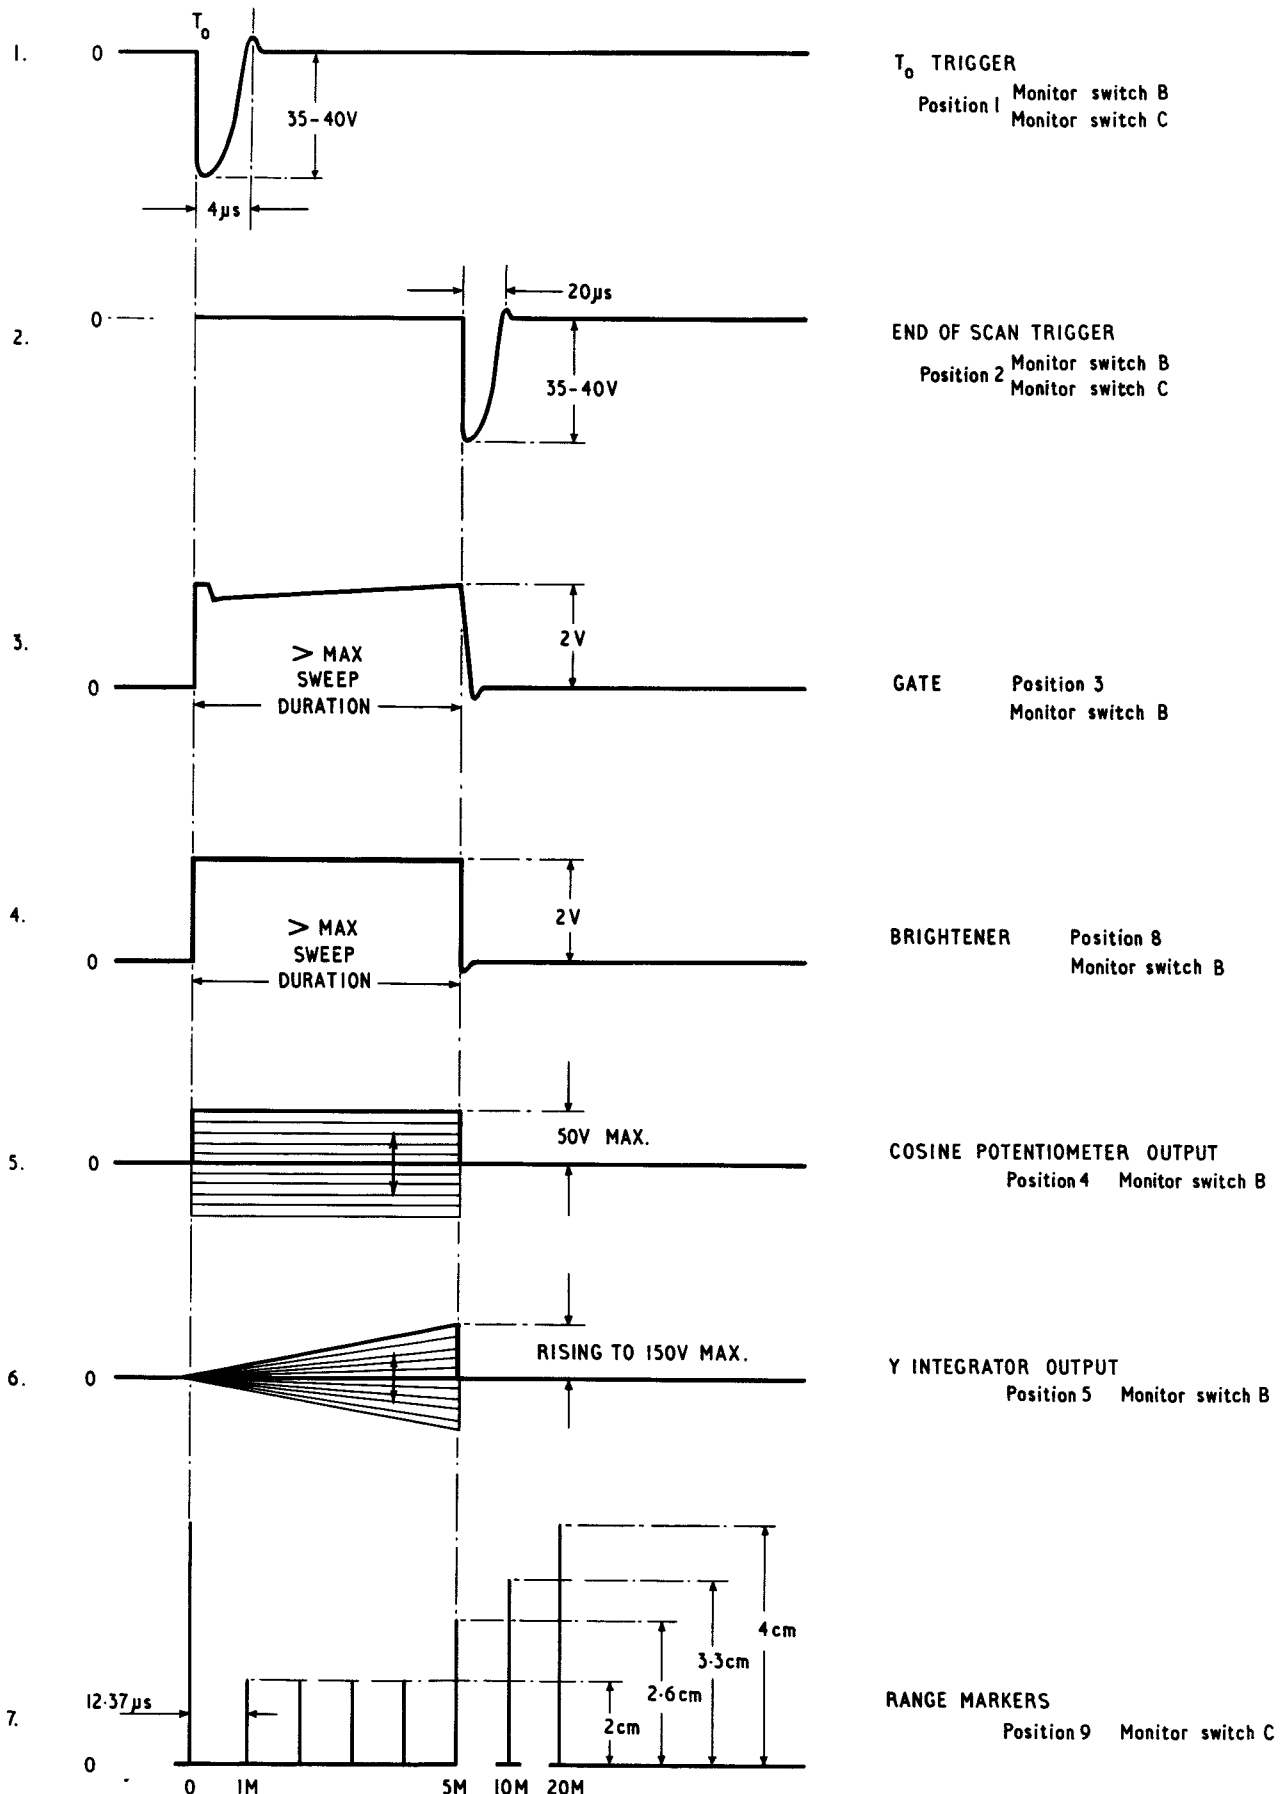

FIG. 2.1.1. MONITOR POSITIONS OF THE WAVE FORM GENERATOR
38. With the aid of an oscilloscope and monitoring switch C, waveforms may be observed, as shown in Fig.2.1.1.